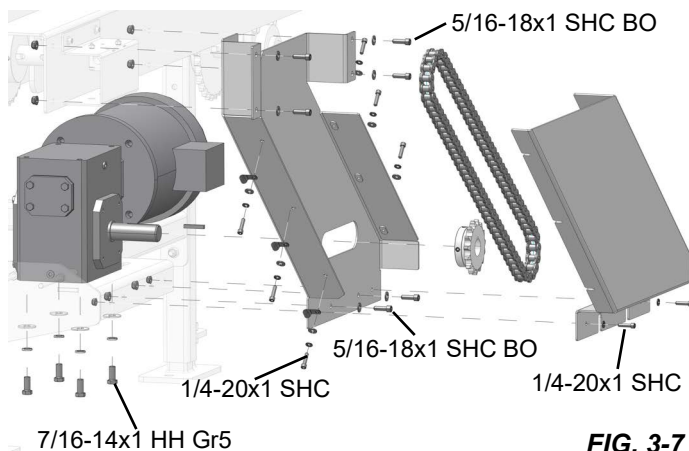

FIG. 3-7
11. Bolt down the gear motor to the shelf, but do not tighten securely yet. See FIG. 3-7.
12. Bolt the back cover to the frame as shown in FIG. 3-7.